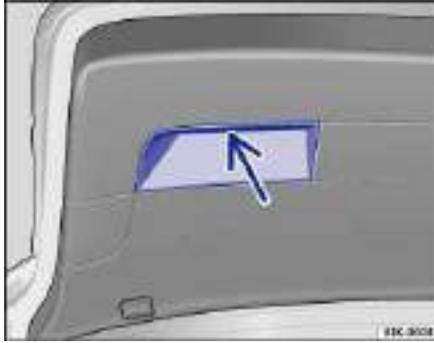

Fig. 29 Opened luggage compartment lid: Recessed grip for closing.
- Grasp one of the recessed grips in the trim of the luggage compartment lid ⇒ fig. 29 (arrow).